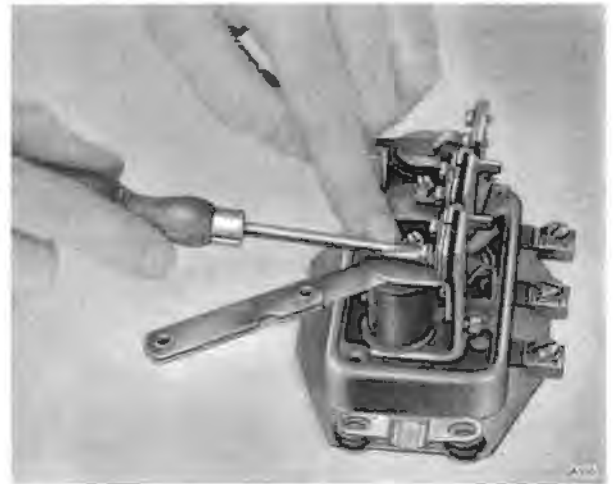

Fig. M19 Adjusting armature air gap
- (ii) Insert a 0.015 in. (0.381 mm.) feeler gauge between the armature and the core shim. Press the armature squarely against the gauge (see Fig. M19) and tighten the two armature securing screws. Screw in the top (fixed) contact until it just touches the armature moving contact, then tighten the locking nut. Remove the feeler gauge and carry out the electrical settings as described above.